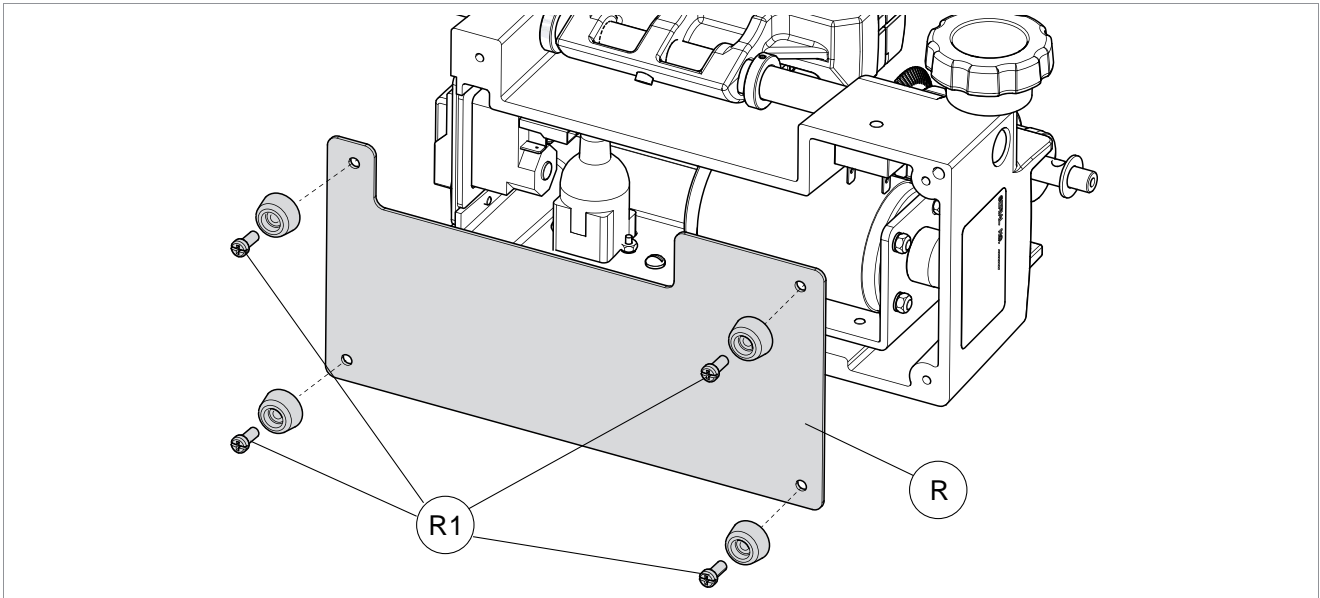

Fig. 34
- 3) Loosen the 4 screws (R1) and remove feet and bottom plate (R) (Fig. 34).